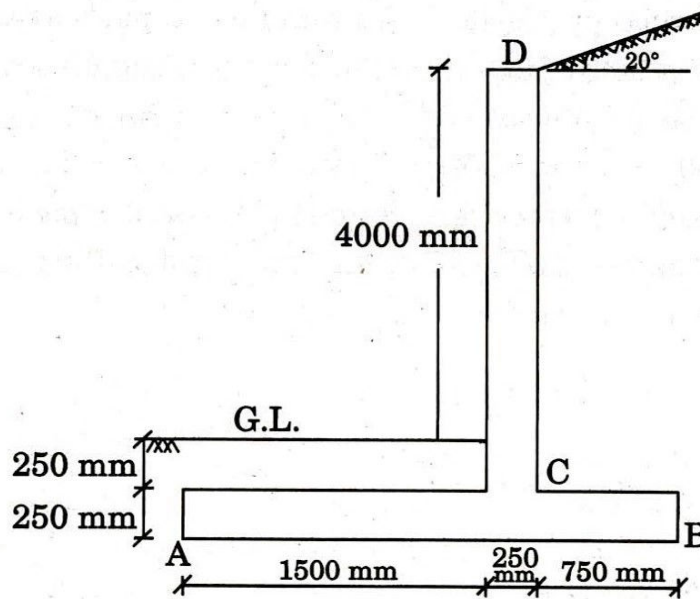

Figure 14
- (c) Check the safety and stability of the retaining wall shown in Figure 14. Safe bearing capacity of soil =  $80 \text{ kN/m}^2$ , coefficient of friction between soil and concrete =  $0.55$ , angle of repose of earth =  $35^\circ$ , density of earth =  $19 \text{ kN/m}^3$ .